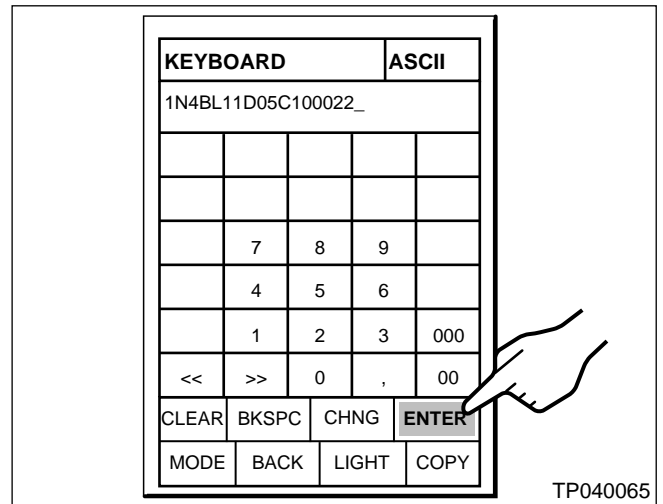

Figure 16
- i. Once the entire VIN is entered (a second time), select **ENTER** on the “Keyboard” screen. See Figure 16.